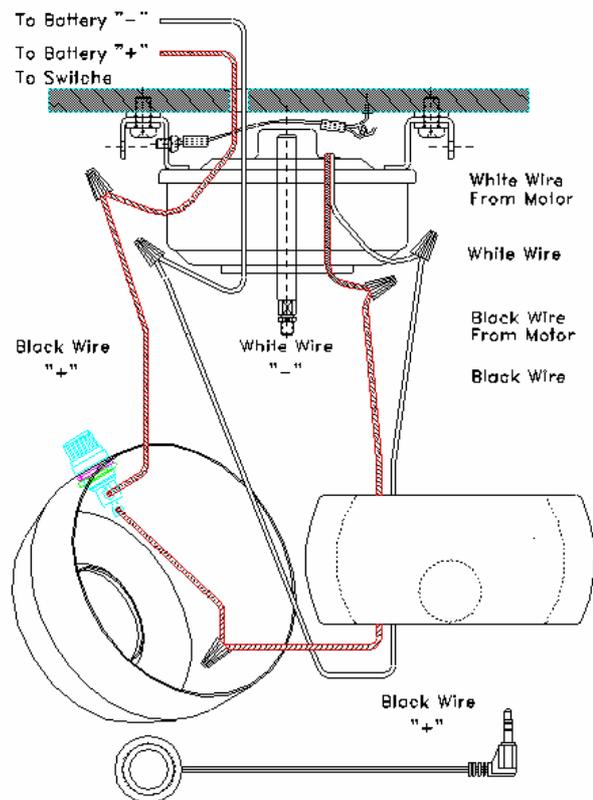

Figure 7
- Connect remote receiver white wire (with mark indicated "TO DC FAN") to motor white wire; connect remote receiver black wire (with mark indicated "TO DC FAN") to motor black wire. See Figure 7